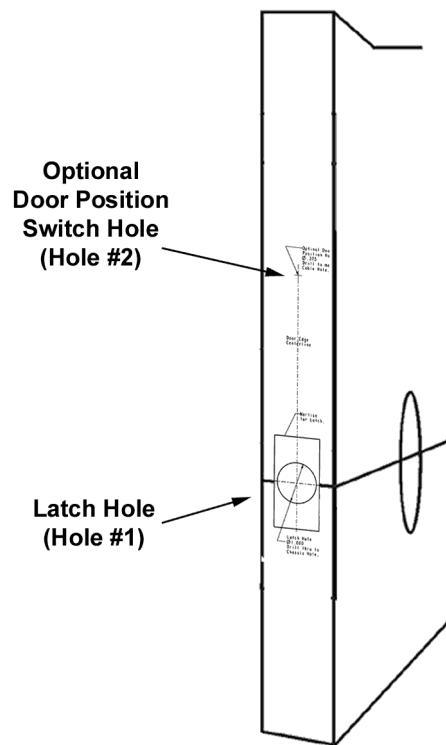
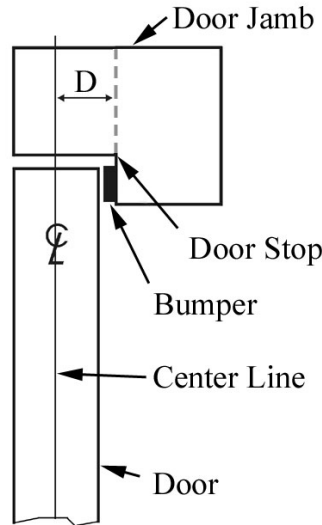
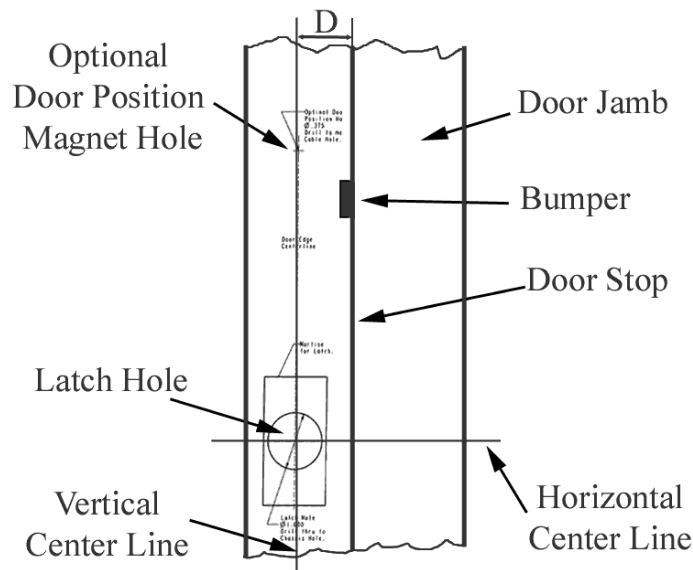

Figure 2-17 – Template RSTP21 on Metal Door Edge
Figure 2-18 – Locating Center Line on Doorjamb (top view)
Figure 2-19 – Template, RSTP21, on Doorjamb (side view)
Note: Skip this section if the Drill & Hole Marking Jig was used or if the Latch Hole (Hole #1) is already drilled and the Optional Door Position Switch (Hole #2) is not being installed (Figure 2-17).
- 2.5.2.2 Align Template, RSTP21, on the door edge so that the center of the Latch Hole is at the intersection of the vertical center line and horizontal line drawn in Section 2.5.2.1 (Figure 2-17).
- 2.5.2.4 If the Latch Hole (Hole #1) does not exist, center punch its center point (Figure 2-17).
- 2.5.2.5 If the Optional Door Position Switch (Hole #2) is to be installed, center punch the correct center point for the size magnet to be installed (Figure 2-17).
- 2.5.3.1 If the strike is not mortised or if a door position switch is being used, mark a vertical line on the strike side of the doorjamb, one half the thickness of the door plus the thickness of any bumpers on the jamb away from the door stop of the doorjamb ($D = \frac{1}{2}$ door thickness + bumper thickness, Figure 2-18 & Figure 2-19). The vertical line must be in line with the Center Line of the door when the door is closed.
- 2.5.3.2 Mark a horizontal center line (Figure 2-19) on the door jamb that lines up with the horizontal center line on the door that intersects the center of the Chassis Hole on the door (Hole #2 in Figure 2-17).
- 2.5.3.3 Place Template, RSTP11, with the center of the Latch Hole over this 38" intersect. Align the center lines on the template with the center lines drawn on the doorjamb and tape it in place (Figure 2-19).
- 2.5.3.5 If the Optional Door Position Switch is being installed then center punch the Optional Door Position Magnet Hole (Figure 2-19).